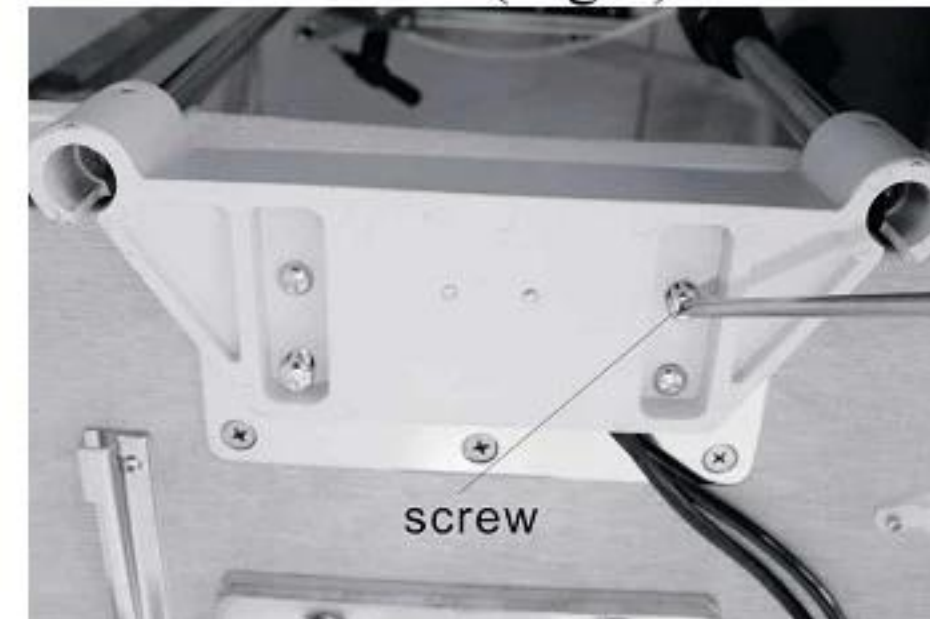

Fig.6
- ✧ While ensuring they are not clamped, retighten the previously removed screws (Fig.6).